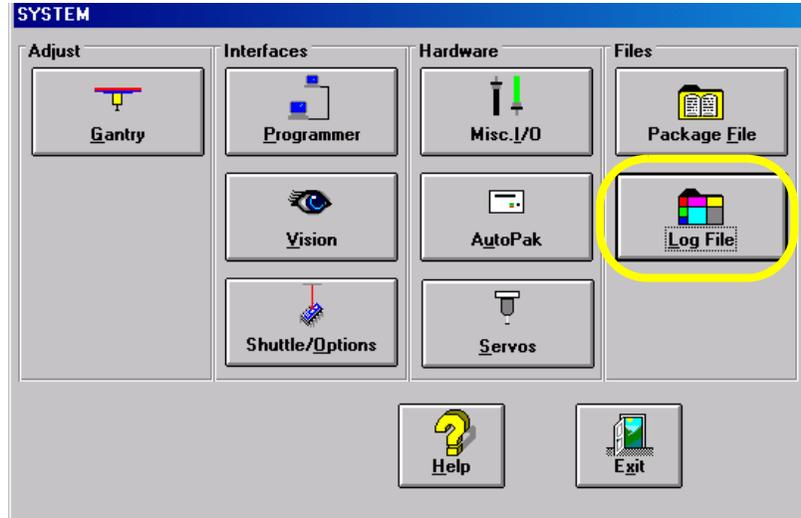

Figure 3-71—Select Log File
- 1b) From the System window, select **Log File**. See *Figure 3-71*.